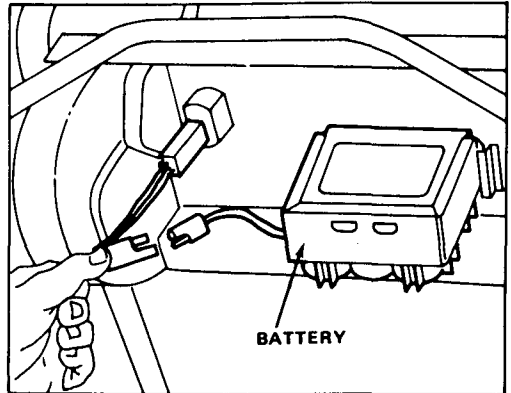

Figure 3
4. Charge battery: refer to Charging Battery, page 11. Slide battery, decal side up, between mounting tabs on back of control panel and connect wires (Fig. 3). Insert key into switch when ready to start engine.